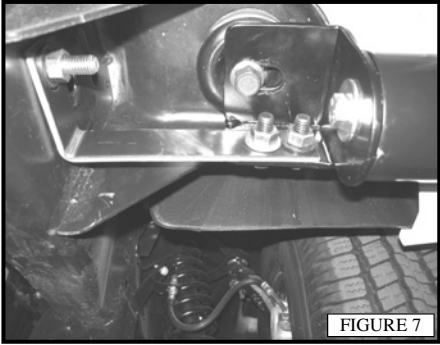

FIGURE 7
6. Attach the passenger side step bar to the mounting brackets with (2) 1/2" hex bolts, (2) 1/2" flat washers, and (2) 1/2" lock washers. The passenger side step bar will be identified by the position of the front step pad. The distance of the front step pad will be further from the end of the tube than the rear step pad. (FIGURE 7,8,9)